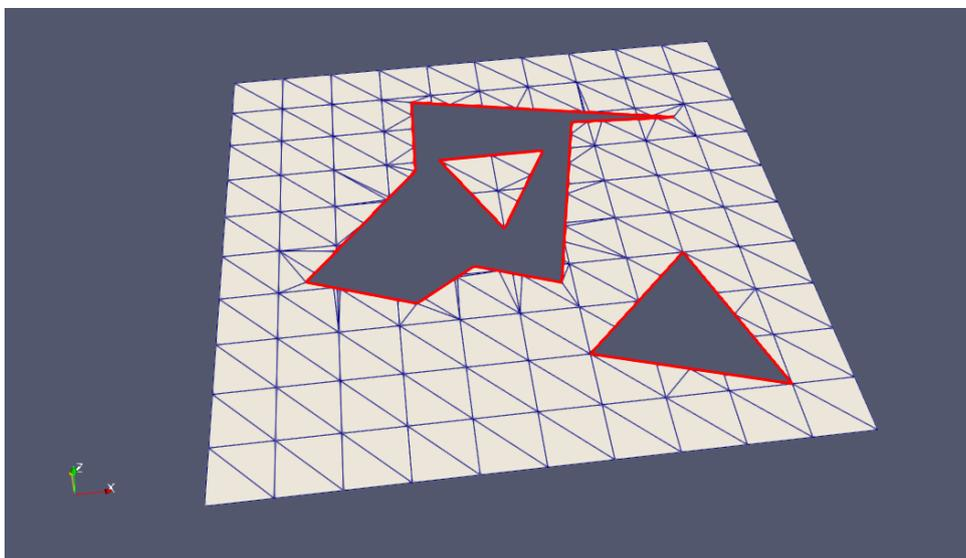

Fig. 2.65: With the **Topo Cutter**, a boundary can consist of several closed polylines that may even be nested. Only (self) intersections are not allowed
- Clipping is done triangle by triangle in a way that the **boundary line is followed exactly**. This includes even cases where we have more than one closed boundary, and even if closed boundaries are nested within each other, as shown in Fig. 2.65. (Exception: self-intersections are not allowed.)